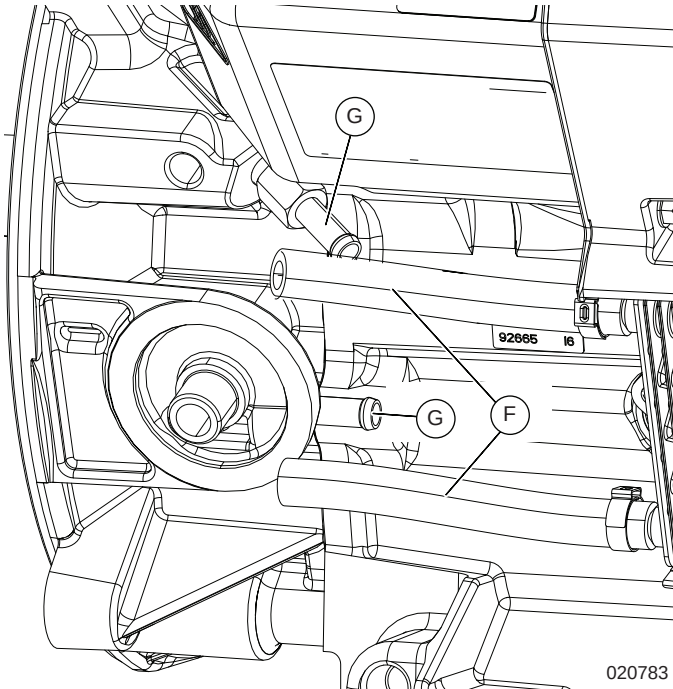

Figure 6-21. Remove Rubber Hoses
4. See Figure 6-21. Remove rubber hoses (F) from barbed fittings (G).